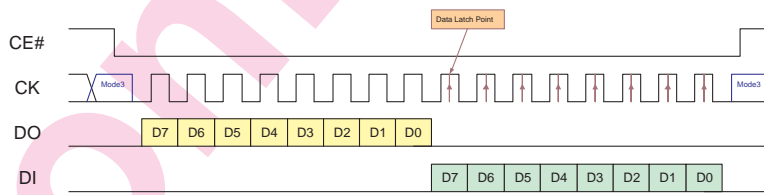

Figure 44: SPI Flash R/W Timing
- Figure 44: SPI type flash read/write timing